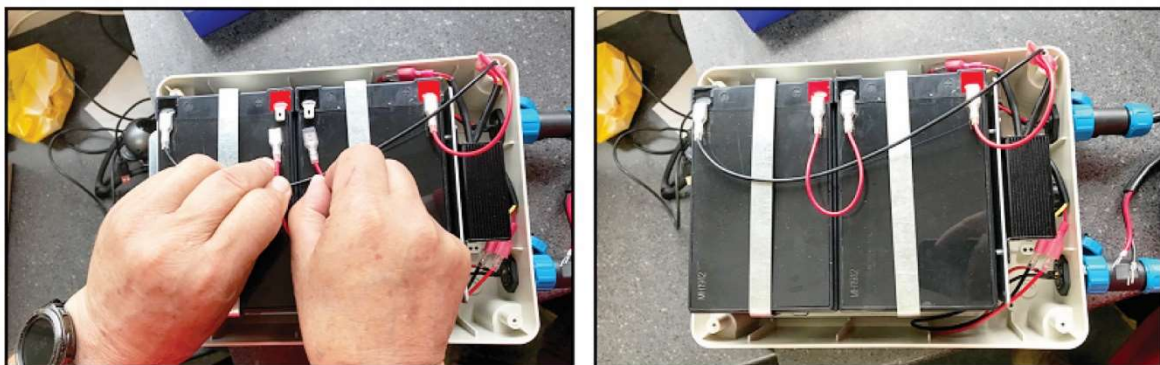

Fig 1
Step 3 – Connect the Red battery jumper cable to the + and – battery terminals inside the solar battery pack (see fig 1 below)